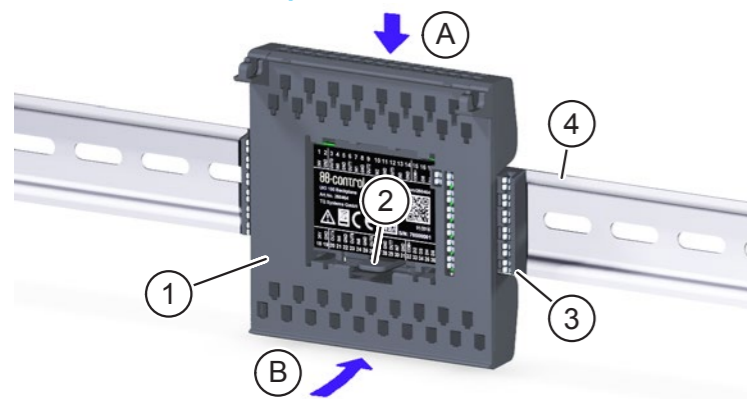

Fig. 4: Place the backplane on the DIN rail
- ▶ Arrange the backplane (item 1 in Fig. 4) so that the tab (item 2 in Fig. 4) is underneath.
- ▶ Holding the backplane at an angle, engage it from above (item A in Fig. 4) in the top edge of the DIN rail (item 4 in Fig. 4).
- ▶ Carefully press the backplane (item 1 in Fig. 4) against the DIN rail (item 4 in Fig. 4) until it snaps into place (item B in Fig. 4).
- There must be no backplane connector (item 3 in Fig. 4) inserted on the last module of a row of DIN rails or on the last module of the entire installation.
- To detach the backplane from the DIN rail, press the tab (item 2 in Fig. 4) down lightly and swivel the backplane up.